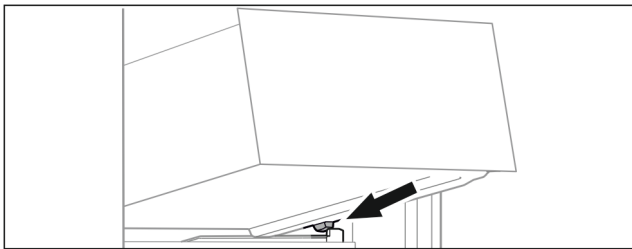

Fig. 192
- ▶ Place drawer at an angle behind the stoppers on the moulded rib. (see Fig. 192)